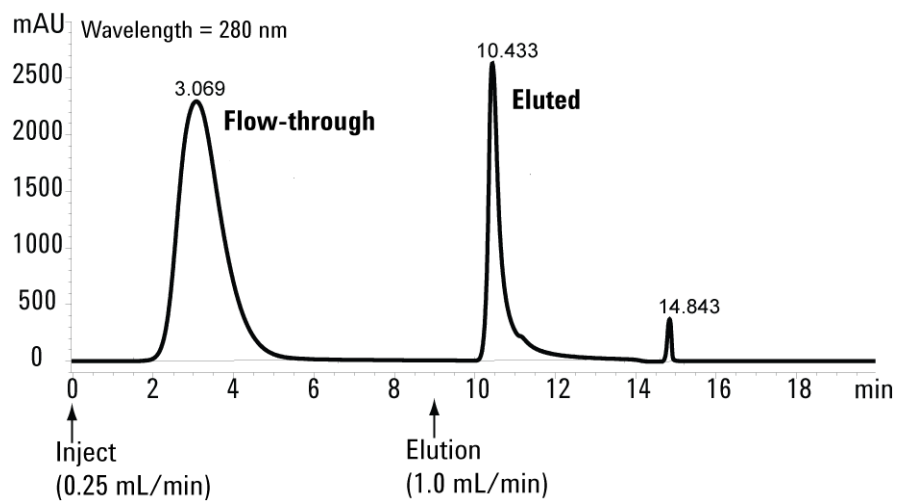

Figure 2 Representative chromatogram for 4.6 × 50 mm column.
- 2 Collect the flow-through fraction (like that which appears from 2 to 6 min in the typical chromatogram shown in Figure 2 on page 13). Store collected fractions at -20 °C if not analyzed immediately.